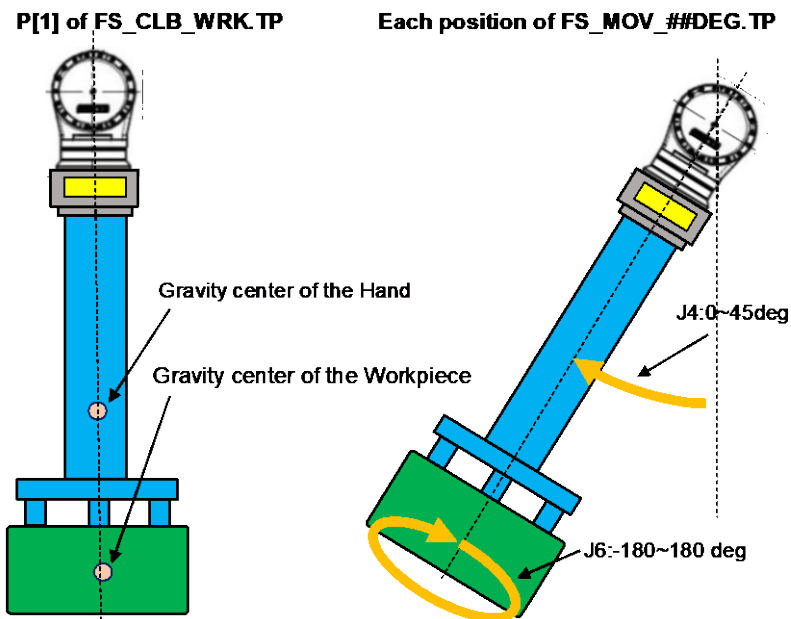

Fig. 3.2.2 (b) Get force values with a workpiece loaded
- (7) Load the sample workpiece onto the hand, and make sure its center of gravity is just under the center of the force sensor when the robot is moved to P[1] in “FS_CLB_WRK1.TP”. (Fig. 3.2.2 (b))
- (8) Run FS_CLB_WRK1.TP to call “FS_MOV_##DEG.TP” (## = 5,15,30,45) and “FS_GET_F.TP” to slowly move J4 of the robot from 0 to 45 degrees and J6 from -180 to 180 degrees to get force data. (Fig. 3.2.2 (b))